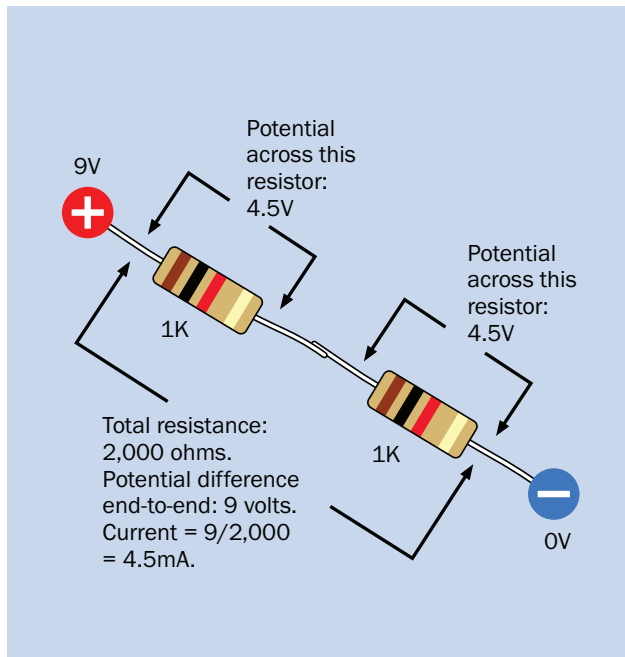

Figure 3-17. To find the total resistance of two equal resistors in series, just add their values.
- When you have two resistances in series, you add their values to get the total resistance. See Figure 3-17.